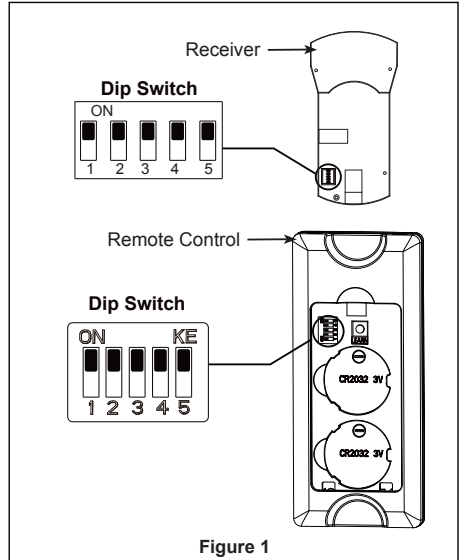

Figure 1
1. To set the code on receiver unit, slide dip switches to the same positions as set on the remote control. (Figure 1)
1. Assemble canopy by rotating key slot in canopy over shoulder screw in hanger bracket and care not to pinch the wires. Tighten shoulder screw. Fully assemble and tighten second shoulder screw that was previously removed. (Figure 1)
1. Lay the blade holders with the threaded posts and pitched foot facing up. Position the blades over the blade holders with the threaded posts showing. Make sure the bottom edge of the blades is fully seated against the blade holders. Place blade covers on top of the blades, positioning the holes over the threaded posts. Tighten serrated head screws to secure the blades to the blade holders. (Figure 1)